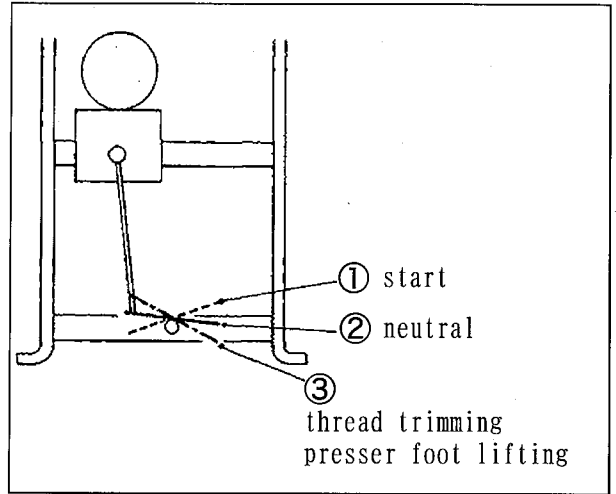

Fig. 16
- (1) Heel back the pedal to raise the presser foot.
(Fig. 16 ③)
- (2) Place a fabric under the presser foot and toe down the pedal. (Fig. 16 ①)
- (3) Release the pedal. (Fig. 16 ②)
- (4) Heel back the pedal. (Fig. 16 ③)
- (5) Release the pedal. (Fig. 16 ②)